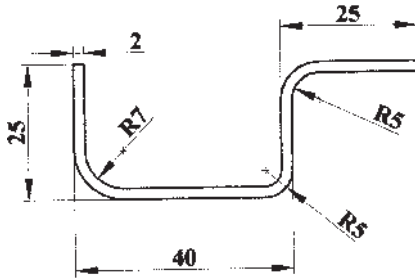

Fig: 4
4. a) Find out the developed length of the component shown in fig. 4. 6
- b) What are the methods of reducing spring back and which would be used for the component in fig.4 ? 5